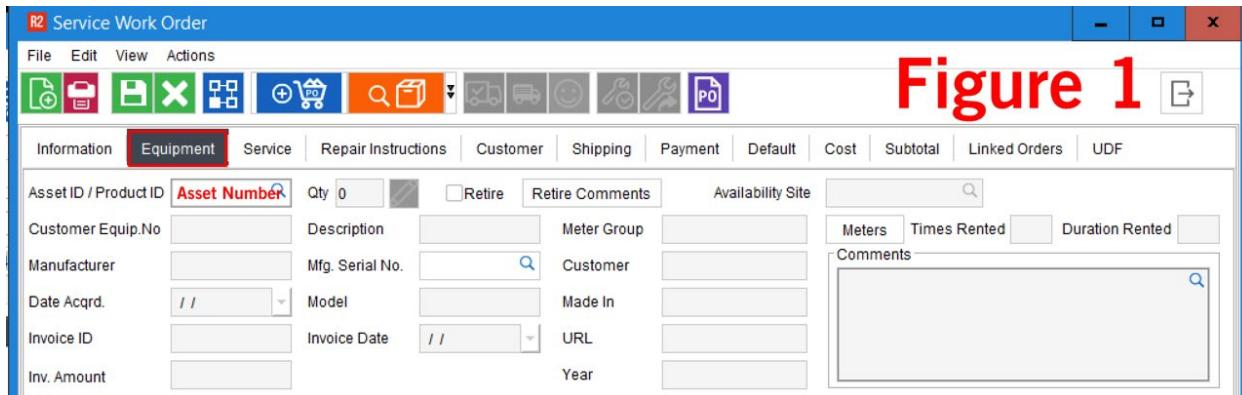

Figure 1
1. Under the **Equipment** tab enter the asset number and hit **Enter** (Figure 1)